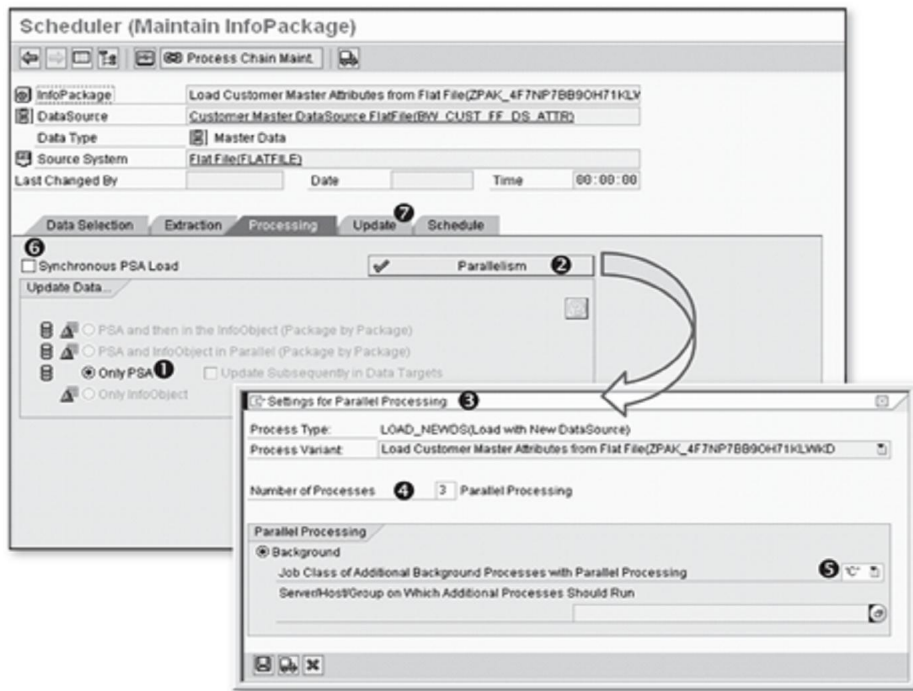

Figure 7.34 Creating an InfoPackage: Processing Tab
Now click on the Processing tab, which allows you to determine how the extraction is processed by the SAP NetWeaver BW system and where it's stored. As shown in ❶ of Figure 7.34, the data extracted is stored in a PSA. If required, data in a PSA can be manually modified before it's loaded into any data target.